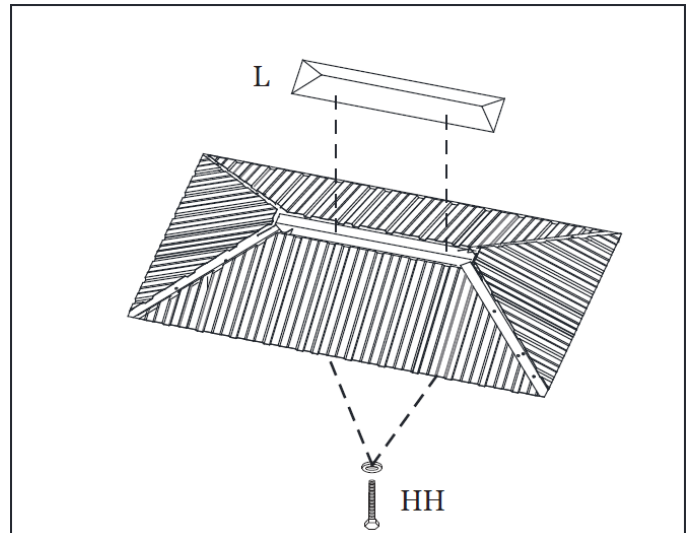
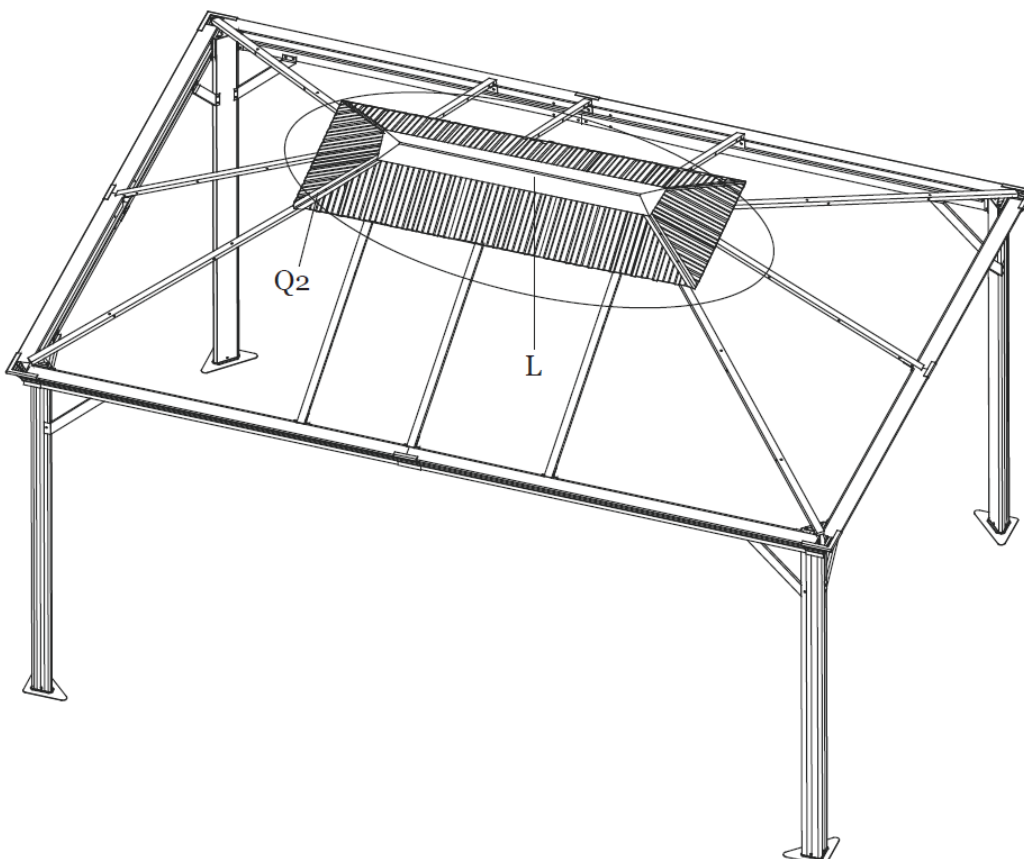

Figure 11-3
Figure 11-2
Step 11B: Repeat for all corners. **Tighten All Bolts.** See Figure 11-2.
Step 11C: Attach the Roof Vent Top Trim (L) to the Roof Vent Center Support (K2) using Bolts (HH). **Tighten Bolts.** See Figure 11-2 and Figure 11-3.